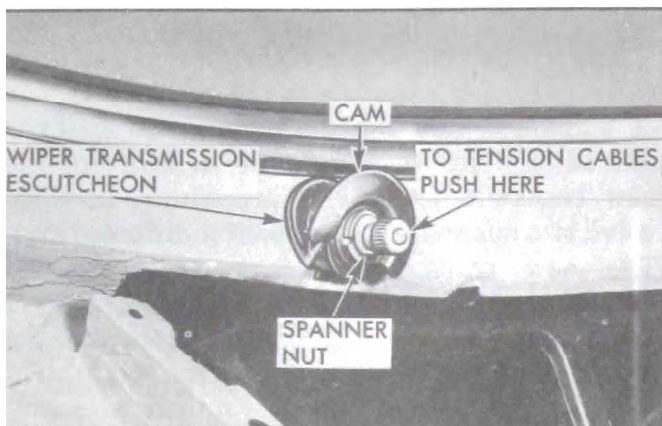

Figure 13-180—Windshield Wiper Transmission
CAUTION: Tape hose to body to simplify installation. See figure 13-180.
4. Connect washer hose to escutcheon. Position escutcheon washer and cam and install spanner nut with wrench 6592. See figure 13-180.
NOTE: *Loose cables cause blade slap or over-travel at end of stroke. If this condition exists, adjust tension of cables as outlined in step “3.” See figure 13-180.*